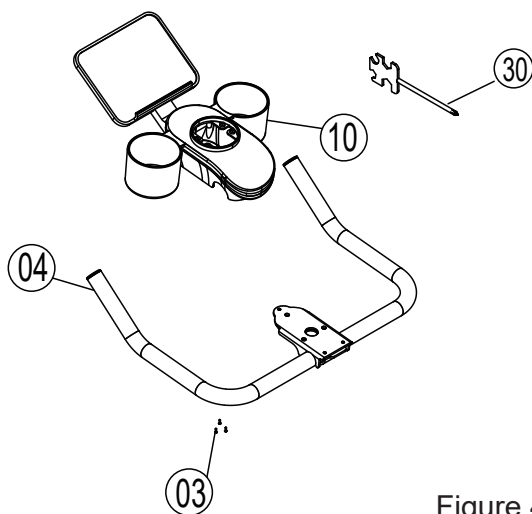

Figure 4
Reach back with your right hand, grab your right foot, and slowly pull it toward your hips until you feel a stretch in the front of your thigh. Hold for 10-15 seconds, then relax. Repeat 3 times for each leg (see Figure 4).
4.Assemble the No. 10 upper and lower covers and the No. 04 instrument frame assembly together, and use the No. 03 cross small head self-tapping screws M4*15 to lock the upper and lower covers from the bottom to the top of the instrument frame assembly using a No. 30 cross open-end wrench.As shown in Figure 4: